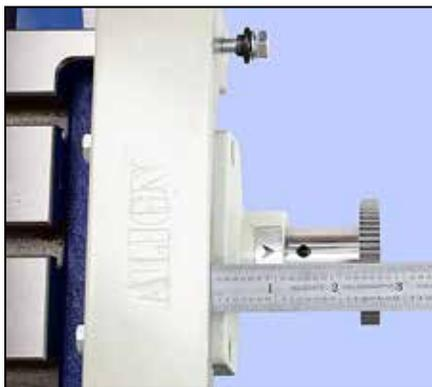
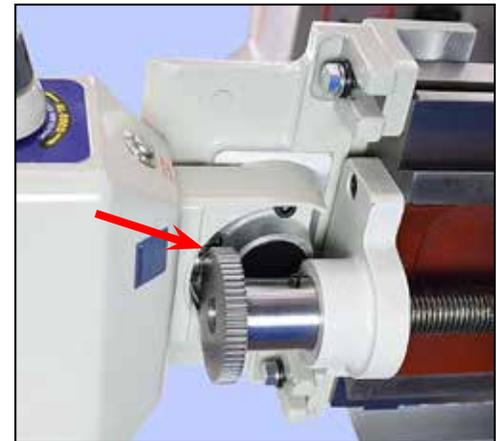

Figure 3 Measure the distance from adapter flange to gear
Figure 5 Be sure the driven gear is clear of the motor housing
Install the mounting bracket on to the feed unit as shown, leaving the socket-head cap screws loose, (1) and (2), then adjust X to the distance measured in Figure 3. Be careful not to cause the driven gear to scrape the motor housing, Figure 5. Tighten the cap screws.